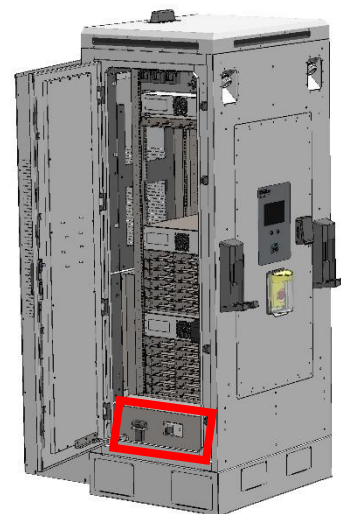

**Figure 22 - Main Switch
3. Locate charger's main switch below the empty shelves (Figure 21) and determine if the main switch is in the ON position (Figure 22) or the OFF position (Figure 23).
If main switch is in the ON position (Figure 22):